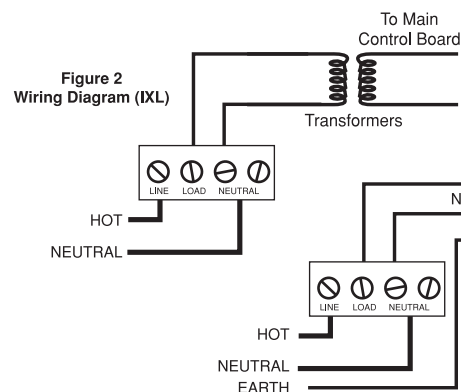

Figure 2
3. Connect the 120VAC power source to the two outside screw terminals labeled LINE and NETURAL. Connect the hot side of 120VAC to the LINE terminal (Figures 2 and 3).
4. Connect the fire alarm control panel to the two inside screw terminals marked LOAD and NEUTRAL (Figures 2 and 3).